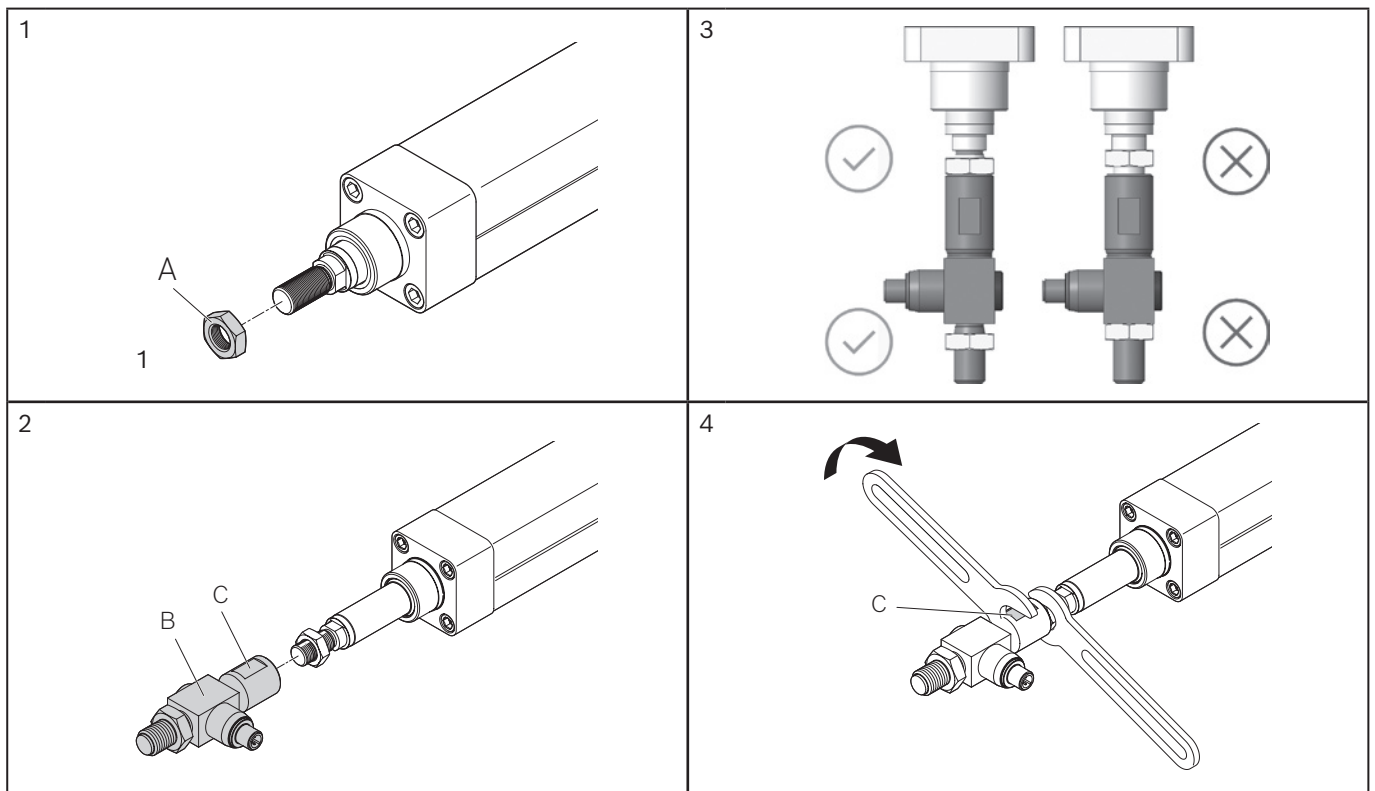

Fig. 6: Assembly, force sensor
- ▶ Lock the lock nut at a distance from the sensor body. ➔ Fig. 6; image 3